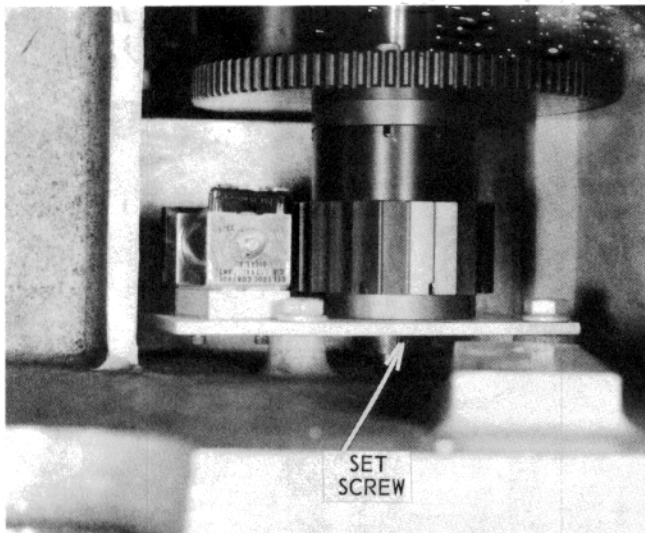

Figure 77 — Angling Clutch
- 6.1.13 Loosen the one angling clutch set screw (see Figure 77).